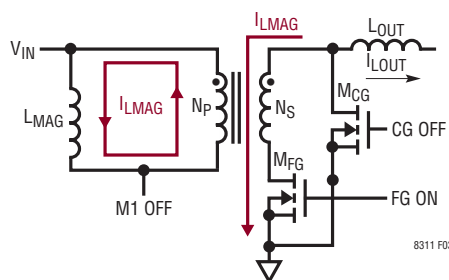

Figure 3. With FG On,  $I_{LMAG}$  Is Conducted Through  $M_{FG}$  to Ground on the Secondary Side When M1 Turns Off
the primary winding voltage gets smaller too, effectively moving SWP towards  $V_{IN}$ . Since  $M_{FG}$  is still on, and  $M_{CG}$ 's body diode is on, the secondary winding voltage gets clamped at about a diode voltage. Through transformer action, SWP gets clamped to approximately  $V_{IN}$ .  $I_{LMAG}$  flows in the secondary windings, as shown in Figure 3, flowing from the drain to source of  $M_{FG}$ , to ground.  $M_{CG}$ 's body diode sources  $I_{LOUT}$  and  $I_{LMAG}$ .
2. **Resonant Reset Case (blue waveform):** Resonant reset ultimately completes when SWP's quasi-sinusoidal waveform returns to  $V_{IN}$ , by which point  $I_{L_{MAG}}$  is reset to a negative value. FSW is eventually clamped by  $M_{FG}$ 's body diode, and conducts  $I_{L_{MAG}}$  through the secondary windings, towards the output inductor (similar to Figure 3, but with  $I_{L_{MAG}}$  direction reversed on primary and secondary sides). With a diode voltage imposed across the secondary windings, transformer action